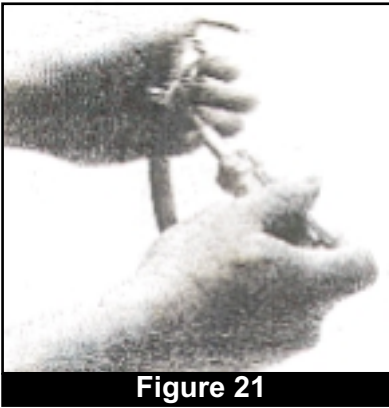

Figure 21
6. Remove the two screws that secure the power cord into the compression end of the elbow connector with a medium (6") flathead screwdriver. Pull gently to free power cord from the elbow connector. (Fig. 21)